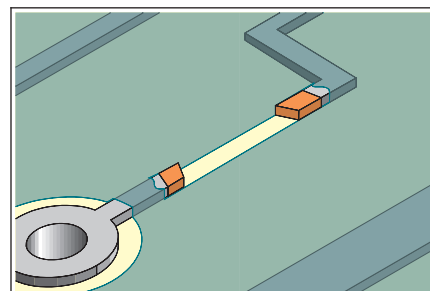

Figure 1 Remove solder mask from the connecting conductor.
4. Scrape off any solder resist or coating from the connecting conductor. (See Figure 1.)